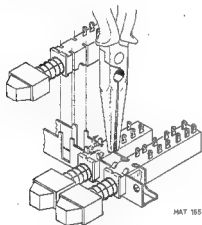

Fig. 3.6. Replacing a switch-segment of a push-button set
To remove a push-button switch, the hexagon screws that secure it to the front panel must be removed. To replace one switch-section of a push-button set, refer to fig. 3.6.
- Straighten the 4 retaining lugs of the relevant switch as shown in fig. 3.6.